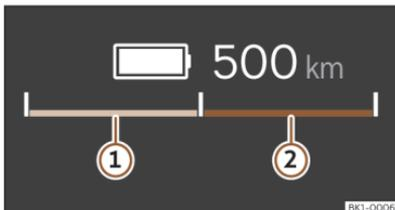

Fig. 21 On the digital instrument cluster: power indicator (schematic representation).
On the bar that is split in half, the power indicator always shows the availability of brake energy recuperation >>> **Fig. 21** ① (green) on the left hand side and power availability >>> **Fig. 21** ② (blue) on the right hand side.